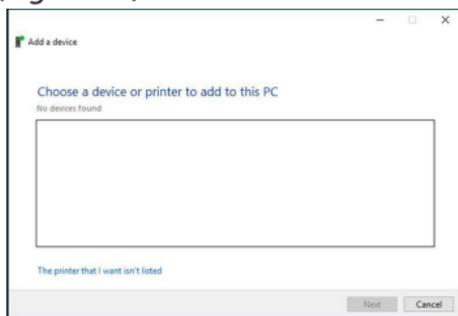

Figure 13
3. On the Add a Device screen, select **The printer that I want isn't listed.** (Figure 13)